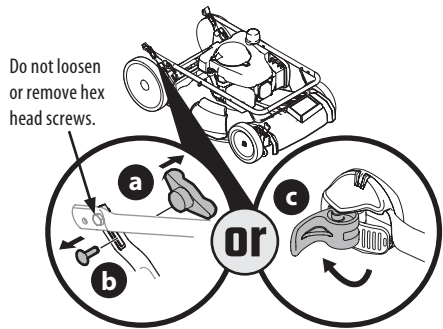

Figure 1
1. Remove knobs or wing nuts (a) and carriage bolts (b) from the handle or if equipped with the EZ-lock handle (c), proceed to STEP 2 (Figure 1).